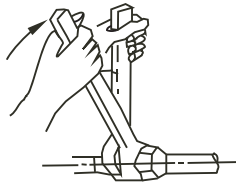

Fig.8-4
- Be sure to use both a spanner and torque wrench together when connecting or disconnecting pipes to /from the unit. (Fig.8-4)